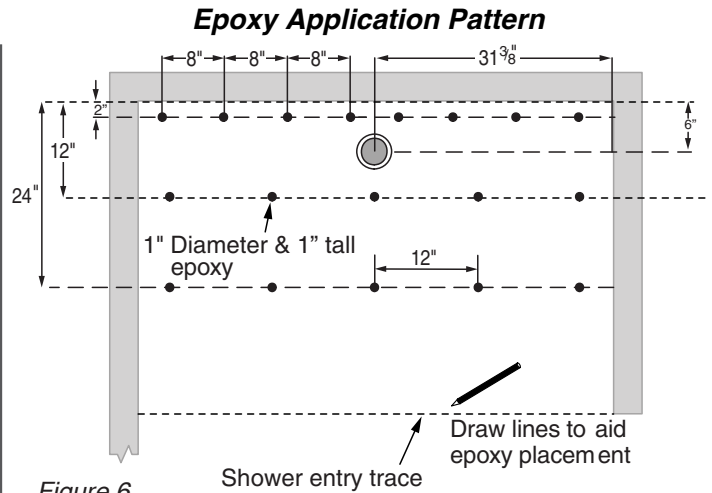

Figure 6
- 5** Sweep the subfloor and remove all debris from the pocket area and the underside of the unit so the supplied epoxy will adhere properly. The floor may be damp, but there should be no standing water. Figure 6 shows the epoxy pattern required for installation.